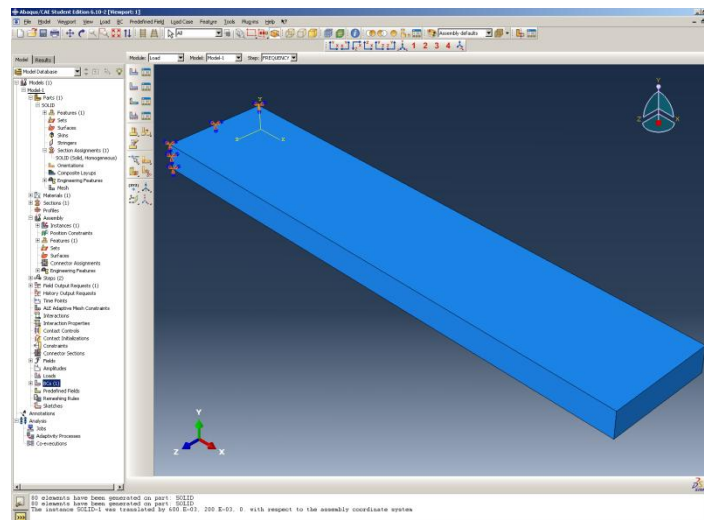

Figure 24. Cantilever Beam (w/ BC's)
- Click **OK**. If this procedure has been done correctly, the model should look similar to that in Figure 24.